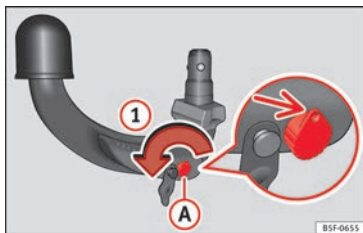

Fig. 223 Step 1.
- Turn the key in the direction of arrow ① until the part of the key with the holes reaches the top position »» Fig. 223.